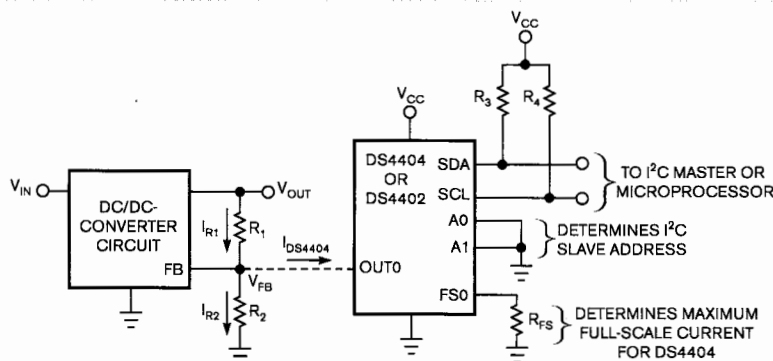

Figure 1 The circuitry to the right of the dashed line adds margining capability.
**▶** You can easily add margining capability—that is, the ability to digitally adjust the output voltage—to a dc/dc converter by making a single connection to the circuit (Figure 1). The dashed line in the figure shows the connection. The extra IC is a two- or four-channel, I2C (inter-integrated-circuit)-adjustable-current DS4402 or DS4404 DAC. Because each DAC output is 0 mA at power-up, the extra circuitry is essentially transparent to the system until you write a command using the I2C bus.
converter's feedback pin. The circuit in Figure 1 assumes a high impedance.